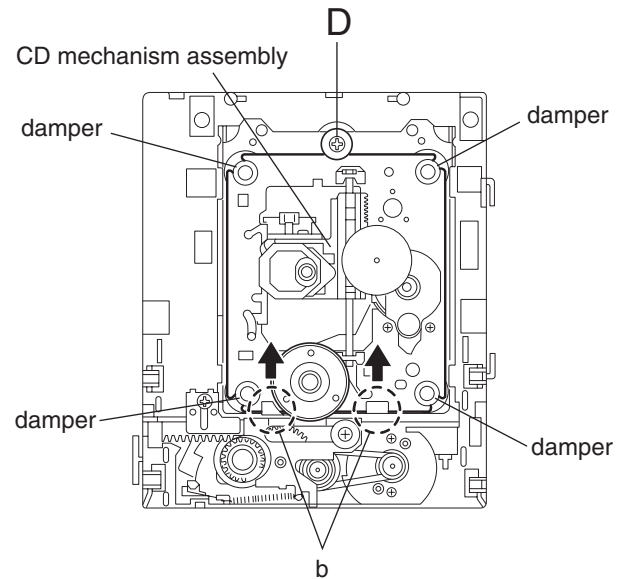

Fig.6
■ Removing the CD mechanism assembly (See Fig.6, 7)